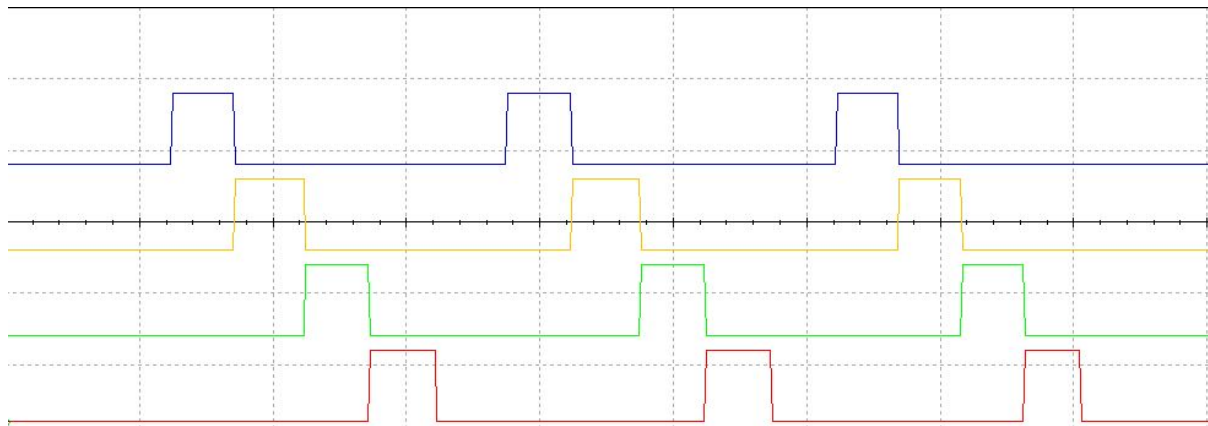

Figure 3: Johnson Register
3. We then built a johnson shift register by connecting the final Q to the first K, and the final \sim Q to the first J. This resulted in all four of our inputs being converted, one at a time (sequentially from left to right) to a 1, and then being converted in a similar fashion to all zeroes. This circuit is shown in figure 3.